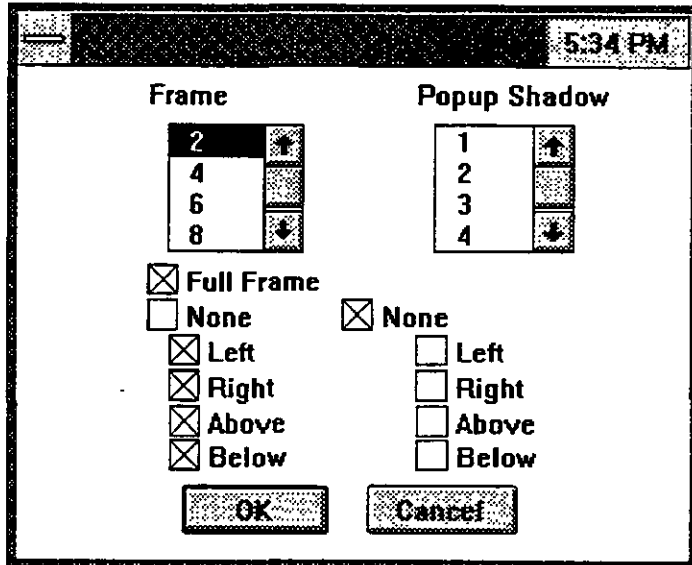

Figure 3-12
2.5. To add shadow, click on Border. The display is as shown in Figure 3-12. Notice two options: Frame and Shadow. Frame refers to adding lines to the field rec-